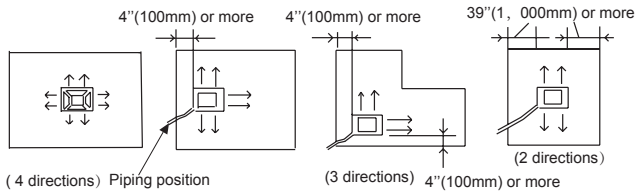

Fig.3
- (1) Especially, the installation place is important for the unit because it is very difficult to move from place after the first installation.
- (2) Decide the mounting position together with the customer as Fig.3
- (3) The discharge direction can be selected as shown Fig.3.